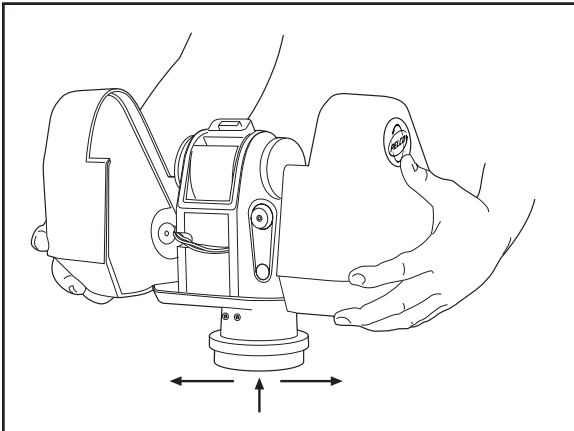

Figure 3. Removing the Covers
- c. Refer to Figure 3 and pull the cover halves away from the pan/tilt unit.